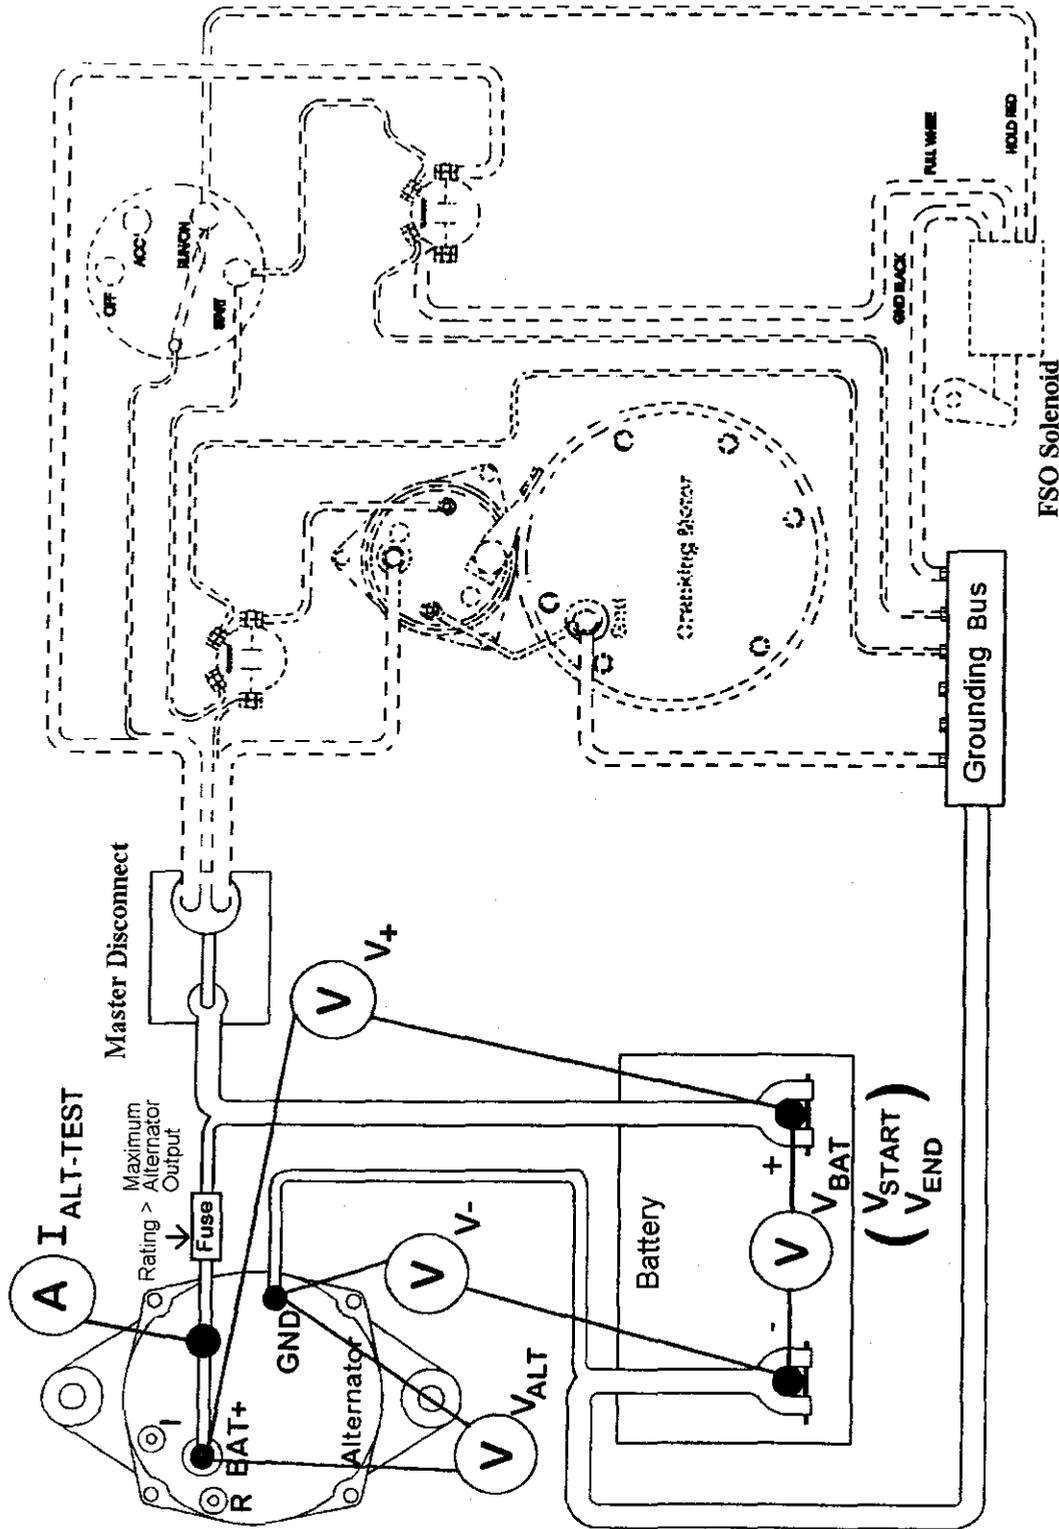

Figure 1: Charging System "Where to Measure"
1. Instrument a means to measure battery voltage (see Figure 1). Measurements should be taken at battery terminals furthest from the alternator.
2. Instrument a means to measure alternator voltage (see Figure 1).
3. Instrument a means to measure positive cable voltage drop. The connection points for this measurement should be the battery positive terminal and the alternator B+ terminal (see Figure 1).
4. Instrument a means to measure alternator ground circuit voltage drop. The connection points for this measurement should be the alternator ground point and the battery negative terminal and the alternator (see Figure 1).
5. Instrument a means to measure alternator current (see Figure 1). A clamp on current probe is recommended. Be sure to clamp probe around all current flows from the alternator.
1. Instrument a means to measure engine speed during the test (see Figure 1).
2. Instrument a means to measure battery voltage (see Figure 1).